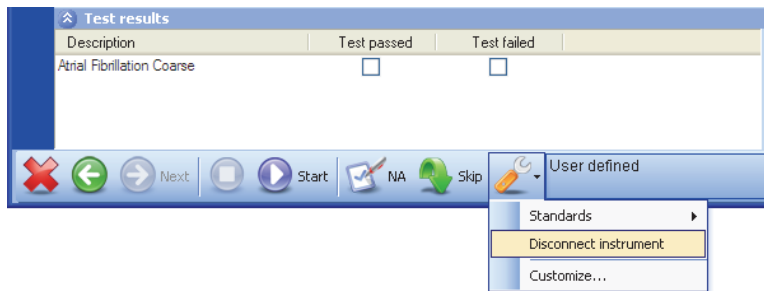

Figure 4-22. Simulator Disconnect
1. Click  on the test guide toolbar as shown in Figure 4-22.